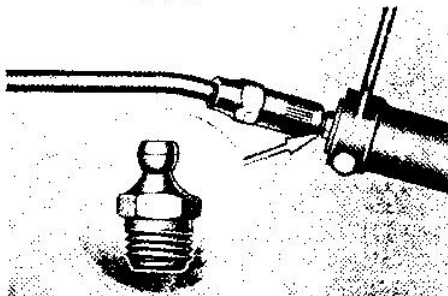

FIG. 6 - Model 6594 Gun used on Hydraulic Fitting.
- b. Push Hydraulic Coupling onto Hydraulic Fitting (Fig. 6).